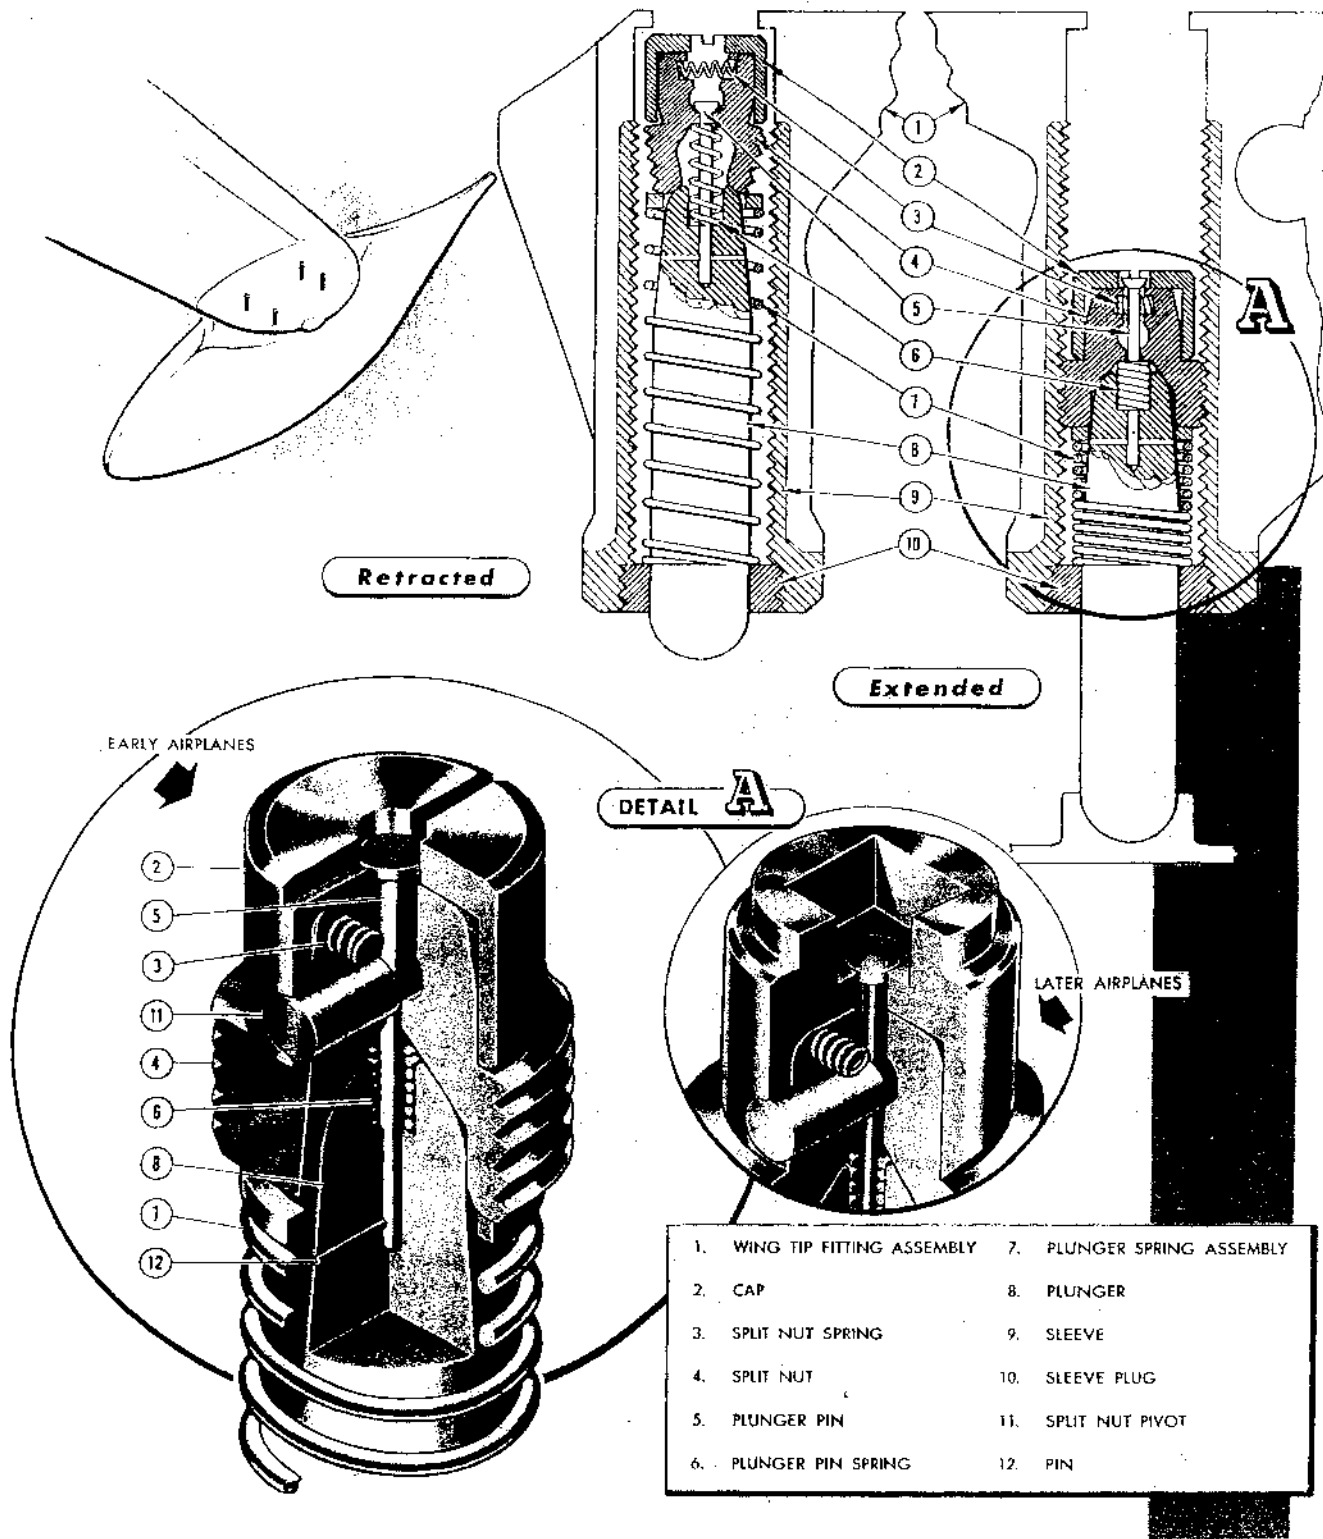

Figure 234 — Sway Brace
c. SWAY BRACES. (See figure 234.)
(1) DESCRIPTION.—Four automatically retractable sway braces are built into each wing-tip fitting assembly. When the bomb or tank is released, the braces retract into internally threaded sleeves in the fitting assembly.